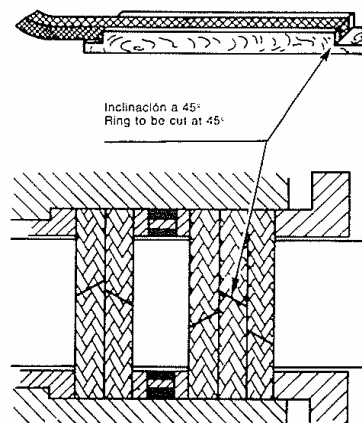

Figure 6.1 – Packing Setting –
- Form the rings and slide them one after the other without omitting to intercalate junctures and lantern ring (see figure 6.1).